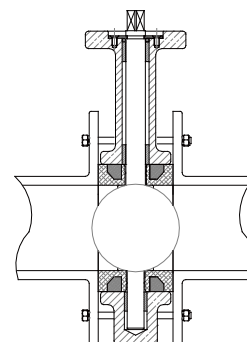

Fig. 3
- Carefully open and close the valve to check that the disc centralizes and the disc does not touch the flange. With the disc in the open position, tighten crosswise with a wrench. (Fig. 3)